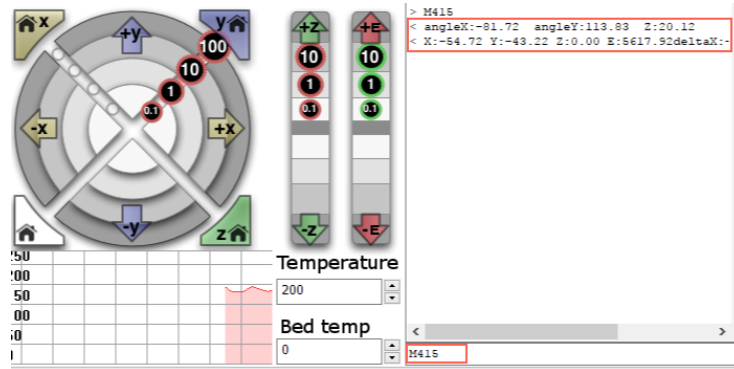

Figure 6.28 Input command M415
- Input command **M415** on the lower right of the **Operational** page to save the printing coordinates, as shown in Figure 6.28.